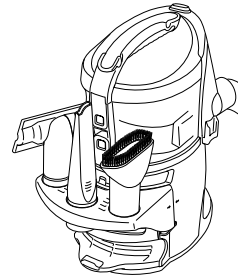

Fig. 20
- 1 Store the dusting brush, upholstery brush, the crevice tool or the power brush on the mounts on the removable tool caddy. (fig. 20)